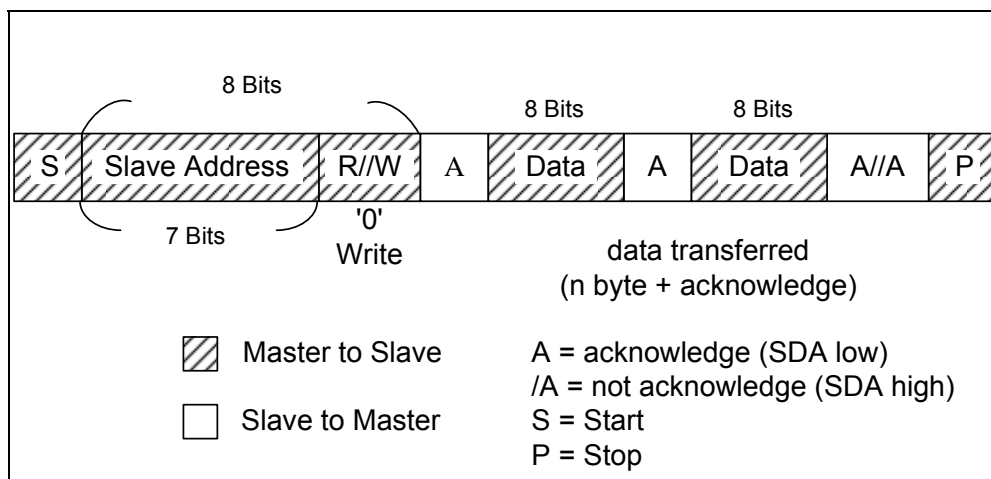
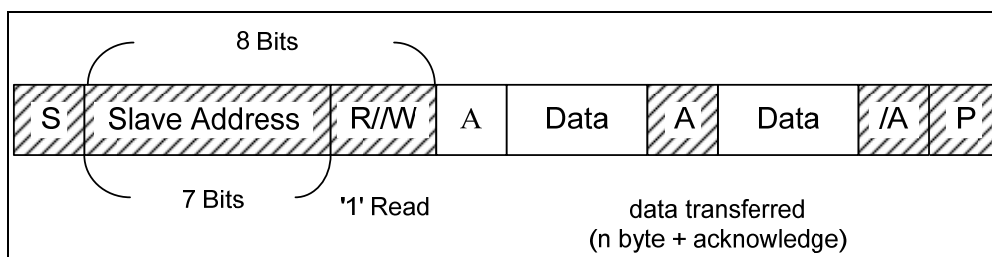

Figure 6-27a Master-Transmitter Transmits to Slave-Receiver with 7-Bit Slave Address
Figure 6-27b Master-Receiver Reads Slave-Transmitter with 7-Bit Slave Address
Master reads Slave immediately after the first byte. At the moment of the first acknowledgement, the Master-transmitter becomes a Master-receiver and the Slave-receiver becomes a Slave-transmitter. This first acknowledgement is still generated by the Slave. The STOP condition is generated by the Master, which has previously sent a not-acknowledge (A). The difference between Master transmitter with Master receiver is only in R/W bit. If the R/W bit is “0”, the Master device is the Transmitter. Otherwise, the Master device is the Receiver. The Master-Transmitter is illustrated in Figure 6-27a “Master-Transmitter transmits to Slave-receiver with 7-Bit Slave Address”, and that of the Master-Receiver is shown in Figure 6-27b “Master-Receiver Reads Slave –Transmitter with 7-Bit Slave Address”.